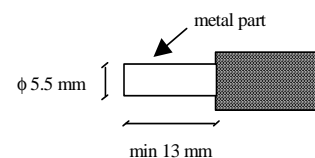

Fig. 2.2. The plug of the DC power supply
- 9V-12V DC / 4W stabilised power supply (optional). The plug dimensions are given in Fig. 2.2.